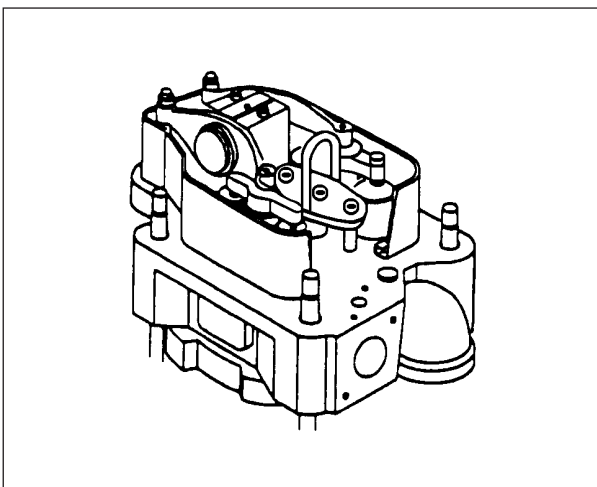

Fig 1.
3) Attach the lifting tool, *see fig 1*, to the cylinder head that has been made ready for installation, and position it carefully on the cylinder liner.